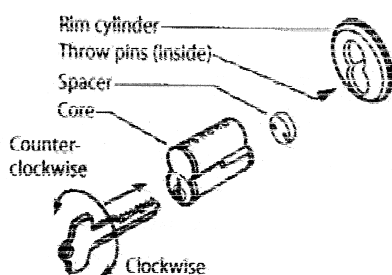

Figure 2 Installing the spacer (six-pin cores only) and core
- 1 Put the control key into the core and turn the key 15 degrees clockwise. See Figure 2.